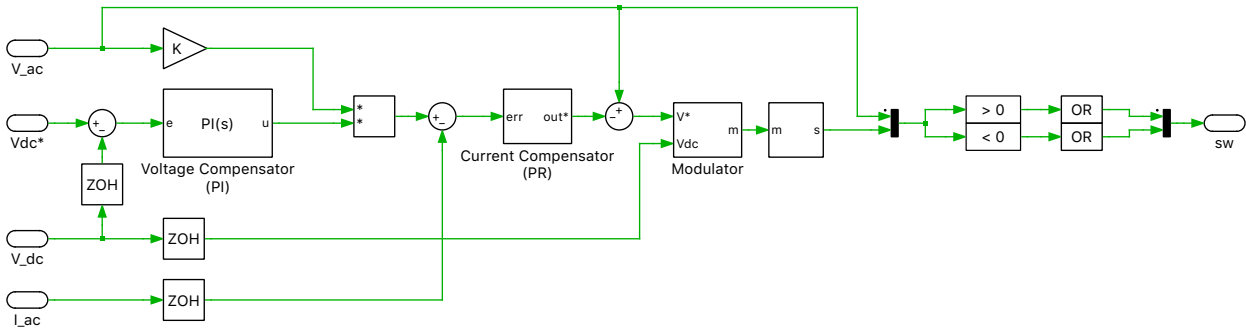

Figure 6: Controller schematic
Fig. 6 depicts, the control scheme is composed of two loops - an outer voltage loop and an inner current loop. The error signal obtained by comparing the measured output voltage (DC) against a voltage set-point is given to the outer loop proportional-integral (PI) controller for voltage compensation. The voltage loop output is multiplied by the input voltage signal (AC) to generate the current reference. The inner loop proportional-resonant (PR) controller [2] controls the input current to follow the current reference. The resulting value is provided to a modulator for PWM generation. Logic is included in the controller such that the switches S1 and S2 either conduct or modulate throughout a half cycle based on the input voltage.